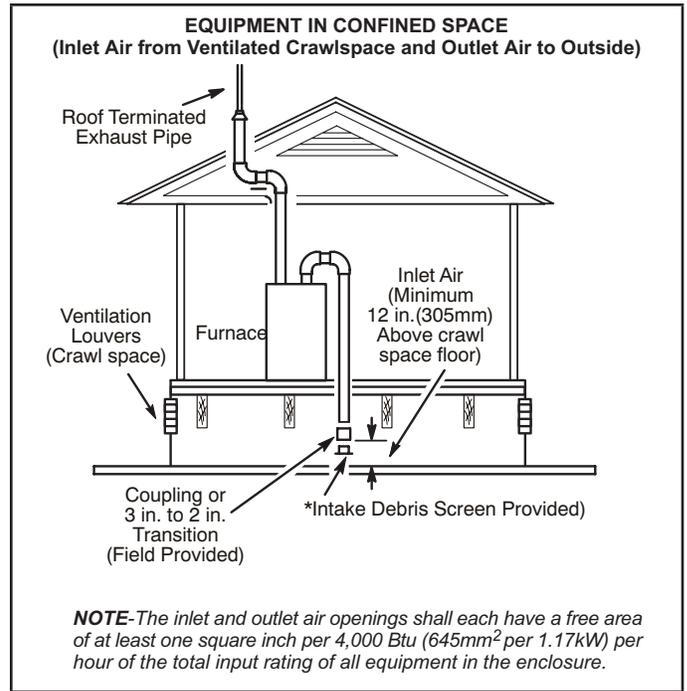

FIGURE 28
- 2 - If intake air is drawn from a ventilated crawlspace (FIGURE 28) or ventilated attic (FIGURE 29) the exhaust vent length must not exceed those listed in TABLE 23. If 3" diameter pipe is used, reduce to 2" diameter pipe to accommodate the debris screen.